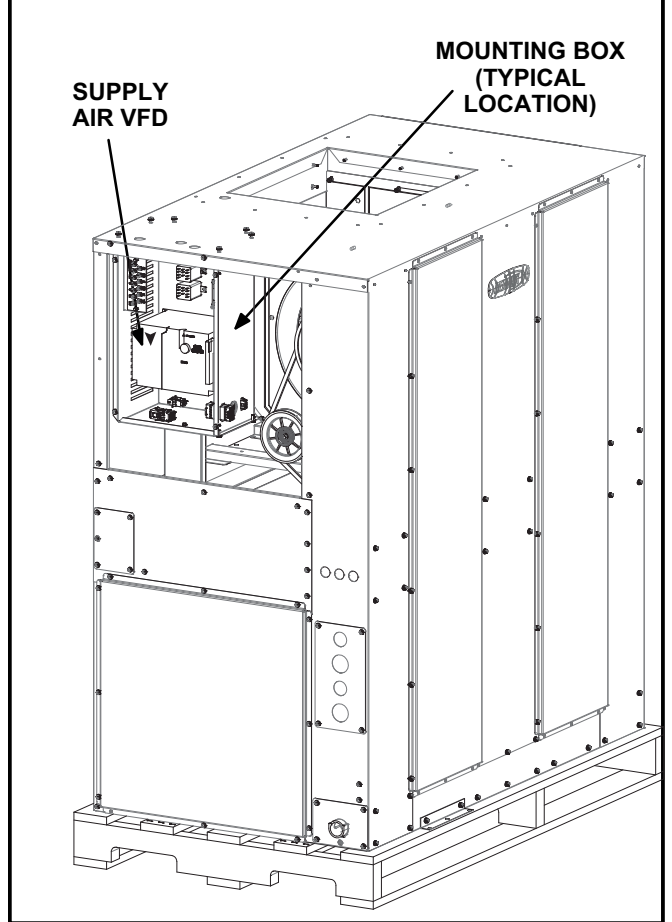

FIGURE 2
- 1- Disconnect all power to unit and **WAIT AT LEAST 10 MINUTES** before opening the VFD cover. See figure 2 through 5 for location.